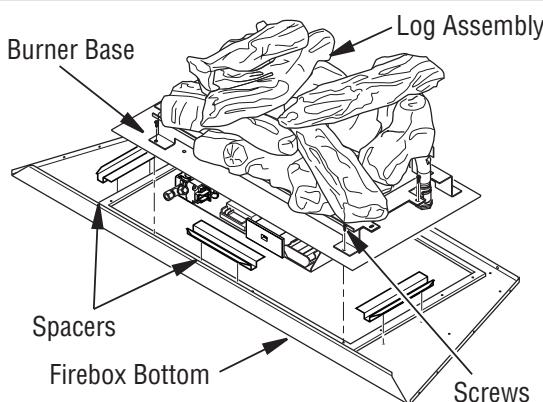

Figure 34 - Removing/Installing Burner Base
4. Remove 3 spacers from firebox bottom (see *Figure 34*).
6. Remove 9 screws from front and sides of firebox burner base. Lift entire base from unit by pulling forward to disengage from rear flange and then lifting up (see *Figure 34*).